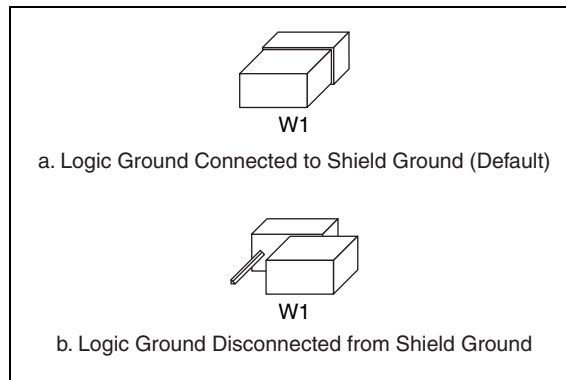

Figure 5. GPIB-PCII/IIA Ground Configuration Jumper Settings
2. Remove the jumper and place it across only one of the jumper pins, as shown in Figure 5.